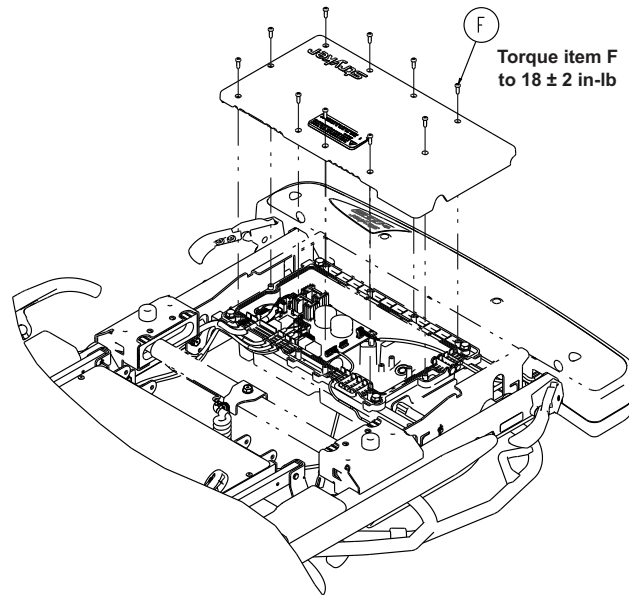

Figure 44 – Litter control box
7. Using a #2 Phillips screwdriver, remove the ten screws (F) that secure the litter control box cover to the litter control box assembly (Figure 44). Remove the litter control box cover and set aside. Save the screws and litter control box cover.